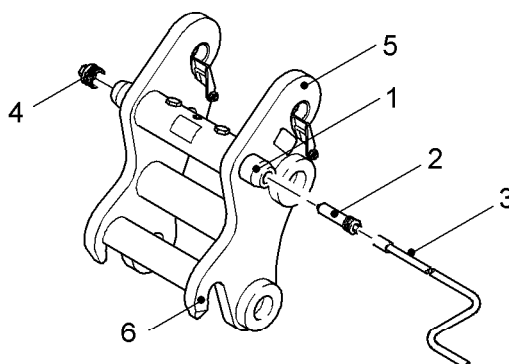

Fig. 3-107 Mechanical quick-change adapter
- ▶ Approach the quick-change adapter from the side and unscrew the locking screw **2** using the crank **3** from the locking pin **1** (siehe Fig. 3-107).